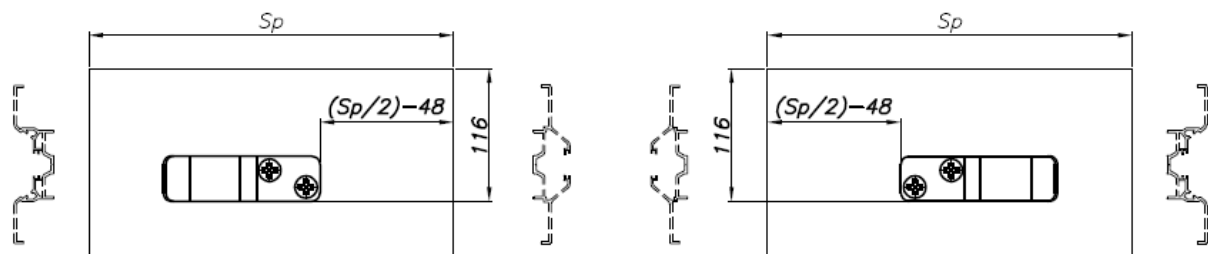
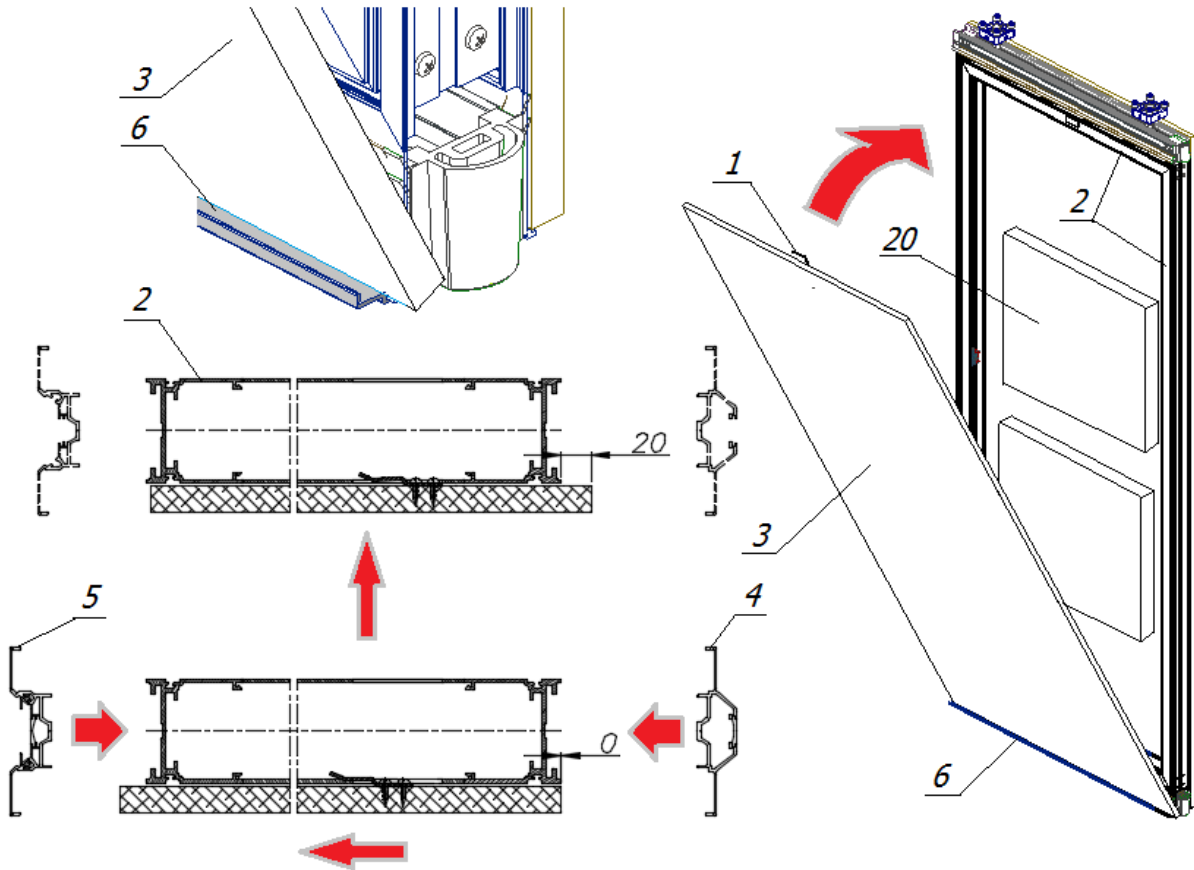

Fig.41. Screwing the handles in both panels of the regular panel according to dimensions **Sp**-panel width
Fig.42. Scheme of setting and suspending the board in relation to the frame of a regular panel
The handle (1) in both panel plates (telescopic ones as well) are mounted **SYMMETRICALLY** to each other and are **DIRECTED** in the direction where the appropriate vertical profile of the panel is located (SEE Fig.41!)
Screwing the handles onto the regular panel board (Fig.41) and then hanging the panels (Fig.42) are described below.
Mount the board holder in the same way for the door panel (Fig.41)
Check that the **CORRECT** plate (3) has been selected for insertion and set it initially 20 mm (Fig.42!) from the edge of the panel frame profile **FROM** the "male" side of the masking plate, and then insert "zero"
After hanging the first board (3), the inside of the panel should be lined with previously prepared cut-to-size **acoustic wool** (20 in Fig.42)